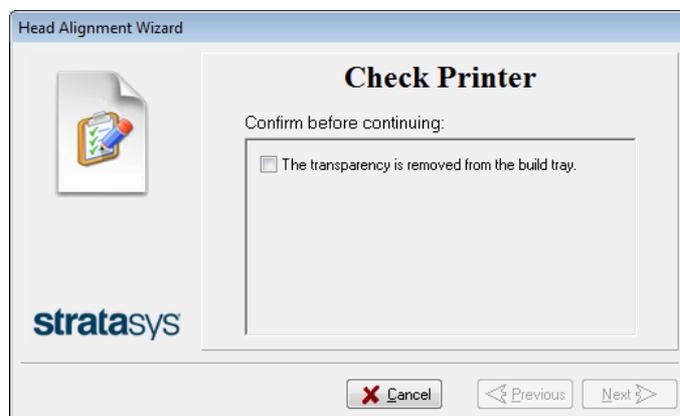

Figure 4-63 Head Alignment wizard—steps 7–9
9. In the wizard screen shown in Figure 4-63, select the *Transparency removed* check box, and click **Next**.